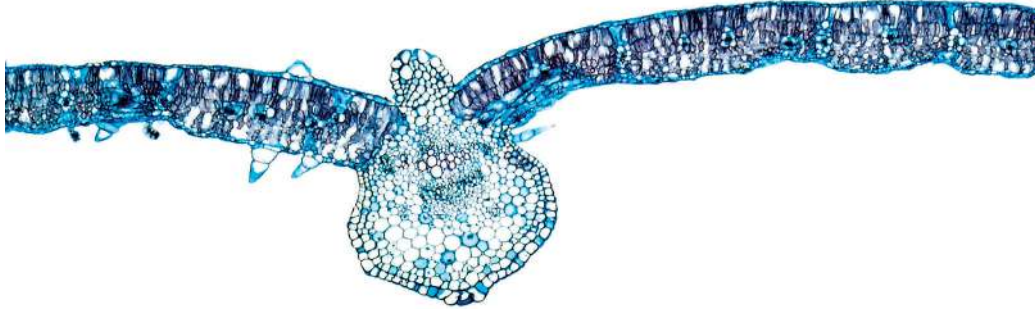
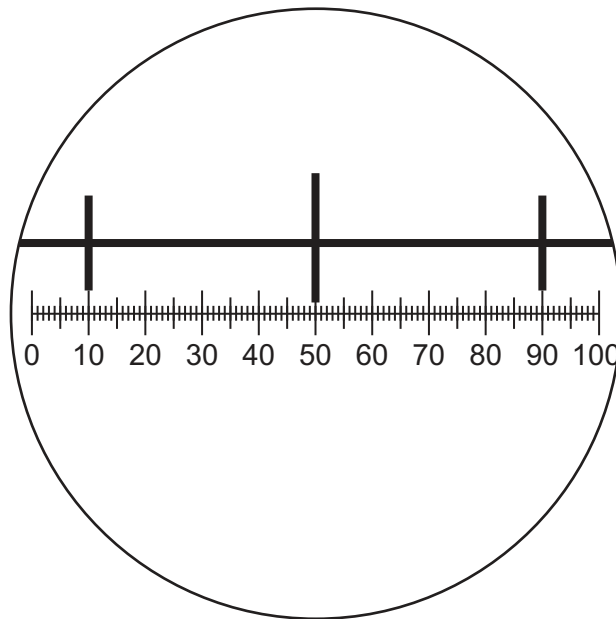
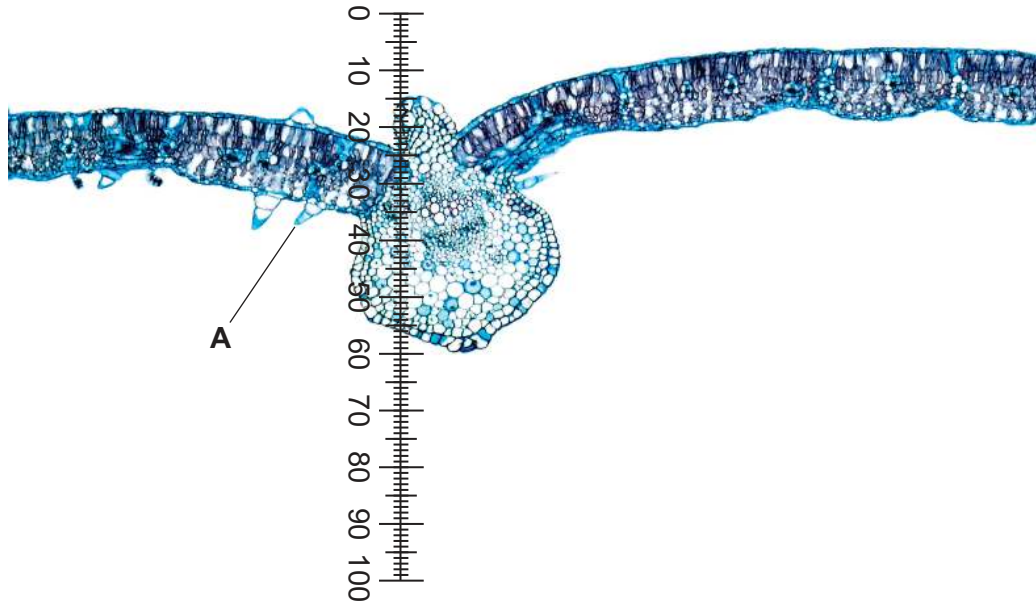

Fig. 2.2
Fig. 2.3
Fig. 2.4
- (b) Fig. 2.2 is a photomicrograph of a stained transverse section of a different leaf from **M1**.
Identify **three** observable differences, other than colour, between the leaf section in Fig. 2.2 and the leaf section on **M1**.
- (c) Fig. 2.3 shows a diagram of a stage micrometer scale that is being used to calibrate an eyepiece graticule.
- (i) Use Fig. 2.3 to calculate the actual length of one eyepiece graticule unit.
Fig. 2.4 is the same photomicrograph as that shown in Fig. 2.2. This was taken using the same microscope and eyepiece graticule as in Fig. 2.3.
- (ii) Use the calibration of the eyepiece graticule unit from **(c)(i)** to calculate the actual thickness of the midrib of the leaf section in Fig. 2.4.
- (iii) Suggest a possible function of the structure labelled **A** in Fig. 2.4.